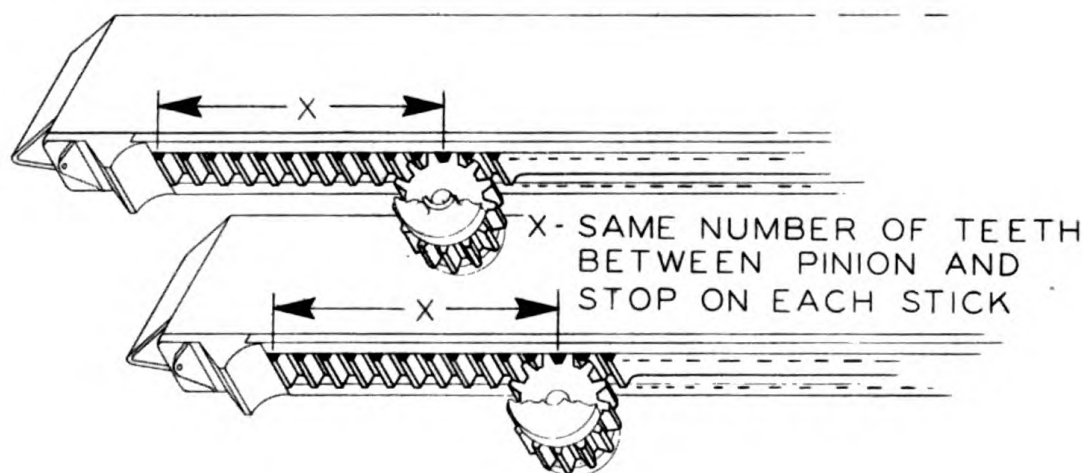

FIGURE 80
shovel boom hoist cable as described on page (85). Raise shovel boom to an angle of approximately 40 degrees. Wrap the end of the dipper hoist cable in a large loop around the ends of the dipper sticks - just ahead of the greenhorns on the racking to prevent slipping when hoisting - and clamp the cable securely. With the dipper resting on the ground, wind the dipper hoist cable until the rear ends of the dipper sticks are about two feet above the height of the shipper shaft on the boom. Travel the machine forward, guiding the boom between the sticks until far enough to lower sticks on the shipper shaft pinions. Check to be sure that the same number of rack teeth on each dipper stick are between the shipper shaft pinions and the end of the racking so that dipper sticks run square with the pinions. (See Figure 80, Page 100.) Release the left foot brake pedal. Lower boom and back up machine until the end of the dipper sticks are near the shipper shaft pinions. Check again on the